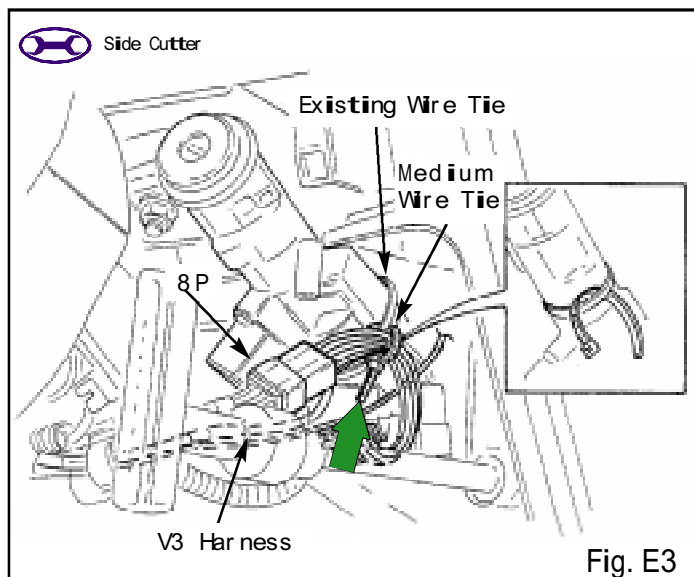

Fig. E3
4. Using one medium wire tie, secure the V3 harness 8P connectors to the existing wire tie around the ignition switch cylinder. (Fig. E3)